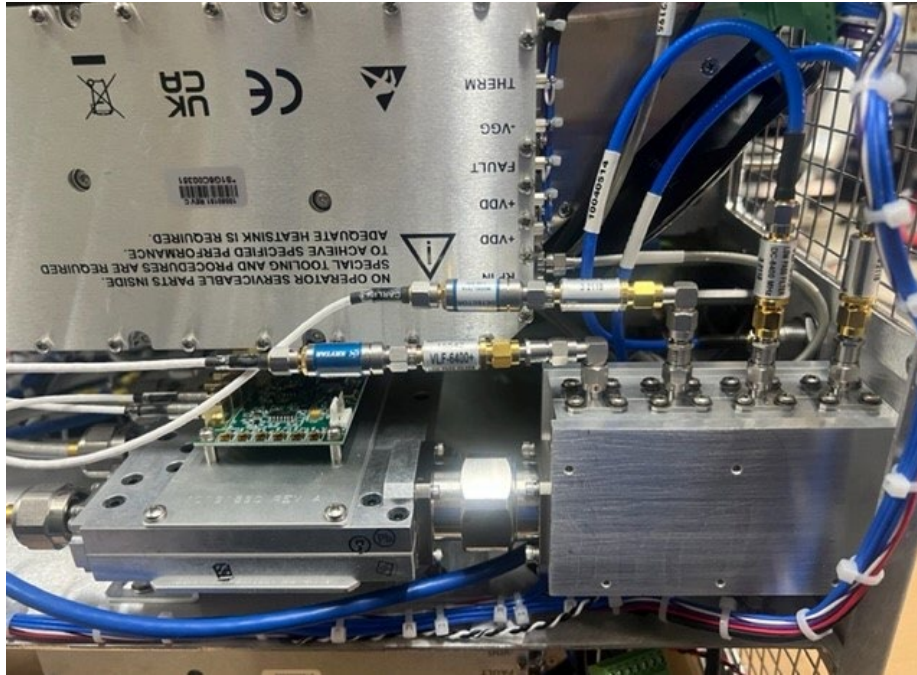

Figure 1
2. Remove both the top and right side covers to expose the Directional Coupler/Combiner assembly (Figure 1).